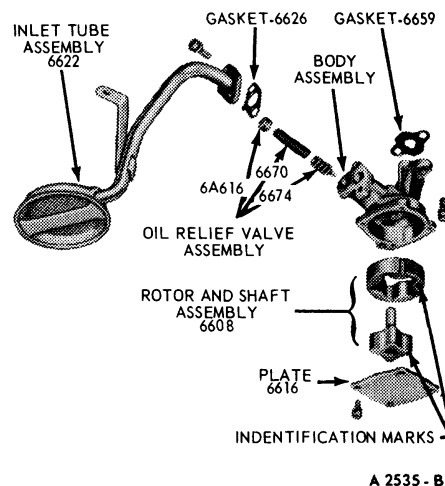

FIG. 37 Oil Pump and Inlet Tube
3. Remove the oil pump attaching bolts (Fig. 37), and remove the oil pump gasket and intermediate drive shaft.